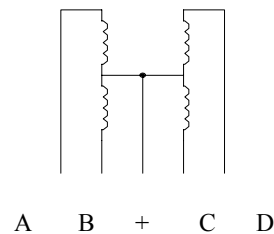
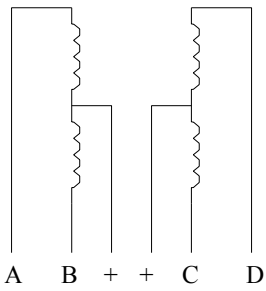

Fig 1. Five-wire stepper motor
Fig 2. Six-wire stepper motor
2. Unipolar motors. These have two center-tapped coils which are treated as four coils. These motors can have five, six or eight wires. Five-wire motors have the two center-taps commoned internally and brought out as one wire (Fig 1). Six-wire motors bring out each center-tap separately. The two center-taps need to be commoned externally (Fig 2). Eight-wire motors bring out both ends of each coil. The four "center-taps" are joined externally to form one wire. In each case the center-tap(s) are connected to a positive motor power supply.
Five-wire motor (Fig 1)
Six-wire motor (Fig 2)